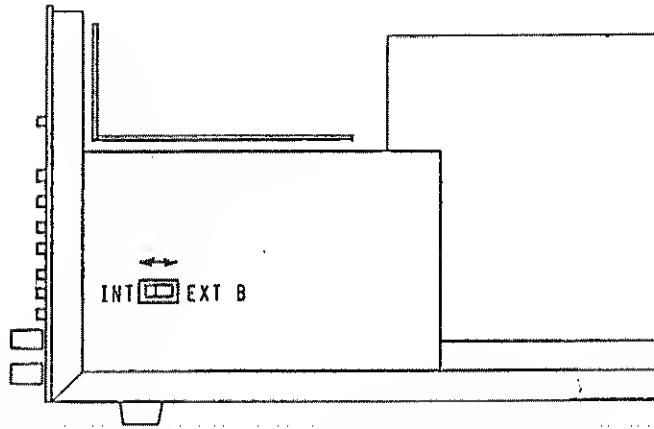

Figure 2.8.3 Location of INT-EXT Switch
- c. Locate the INT/EXT B slide switch shown in Figure 2.8.3 and set it in the EXT B (rearward) position.